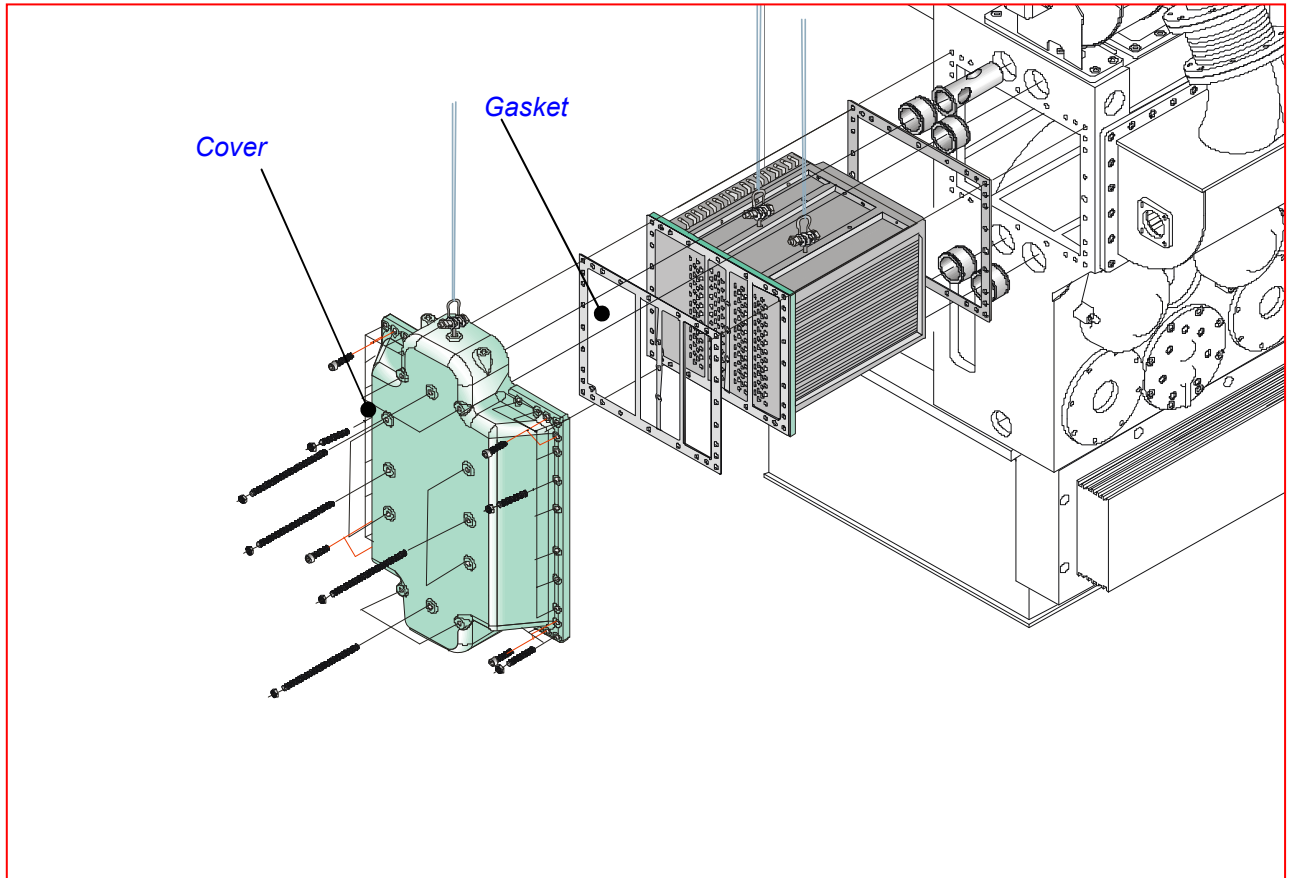

Fig 1 Dismantling of Charger Air Cooler (과급 냉각기의 분해)
2. Unscrew the bolts for the air cooler cover as shown in fig. 1.